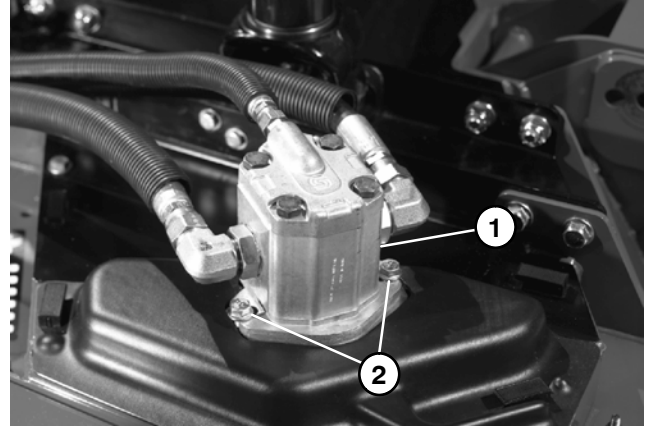

Figure 64
4. Remove two flange head screws that secure hydraulic motor to motor mount (Fig. 64).
3. Secure motor to cutting deck with two flange head screws (Fig. 64).